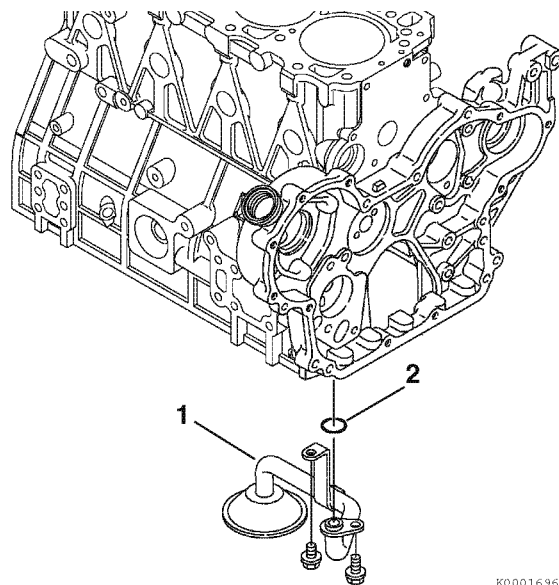

Figure 6-151
1. Reinstall the oil pickup tube (1, **Figure 6-151**) using a new O-ring (2, **Figure 6-151**).